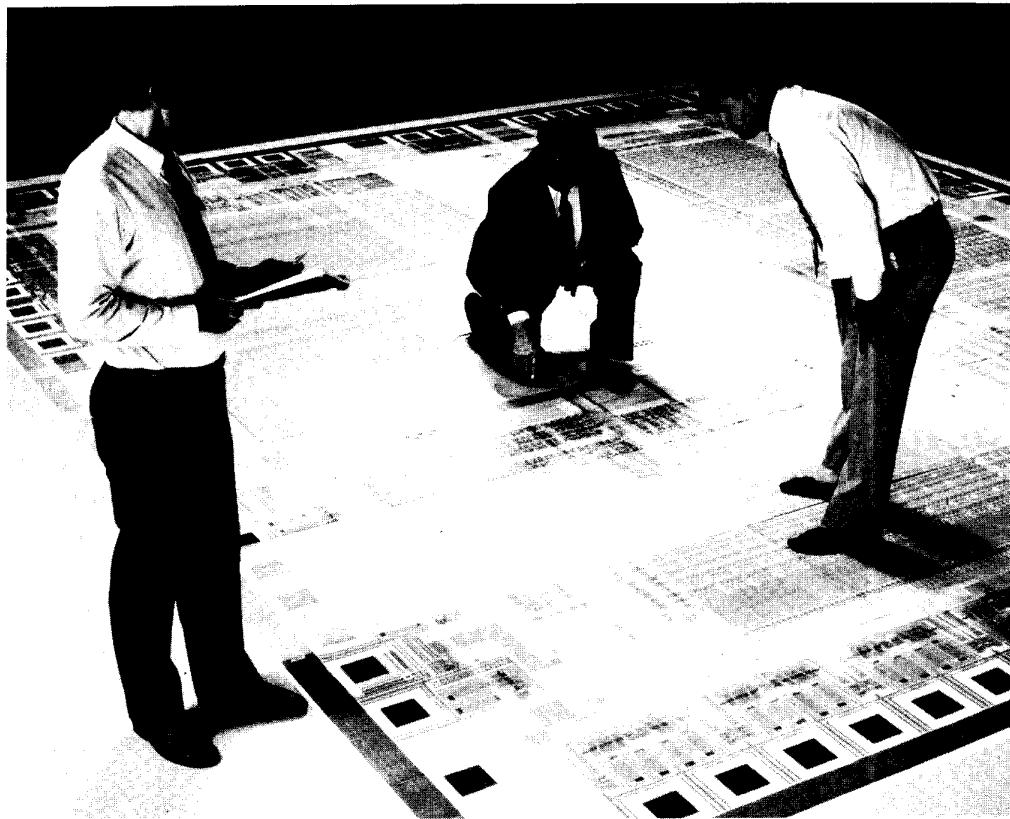

Figure 12.13. At the chip-design level, CAD/CAM isn't a luxury – it's a necessity. (Courtesy of Performance Semiconductor Corporation, Sunnyvale, California.)
□ **CAD-base ASIC.** We finish our CAD narrative by pointing out that you would not dream of designing custom or semicustom (gate-array) ICs by hand (Fig. 12.13). These belong in the general class of "application-specific integrated circuits," or **ASICs**. Once again, CAD comes to the rescue, with capture and simulation software that gives you some assurance that your chip has a chance of working. ASICs are rational in the context of substantial production runs, and we confidently assume that the situation will only improve with time. By the time of the next revision of this book it may have become